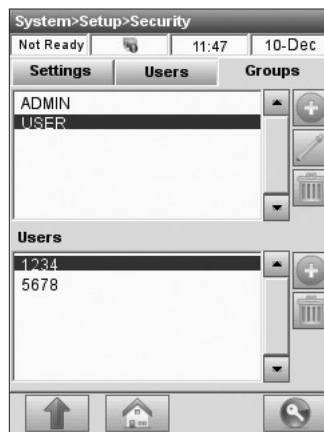

Fig. 3-65 User Groups
9. To add users to this group, press  in the **<Users>** section in the bottom half of the screen (Fig. 3-65).